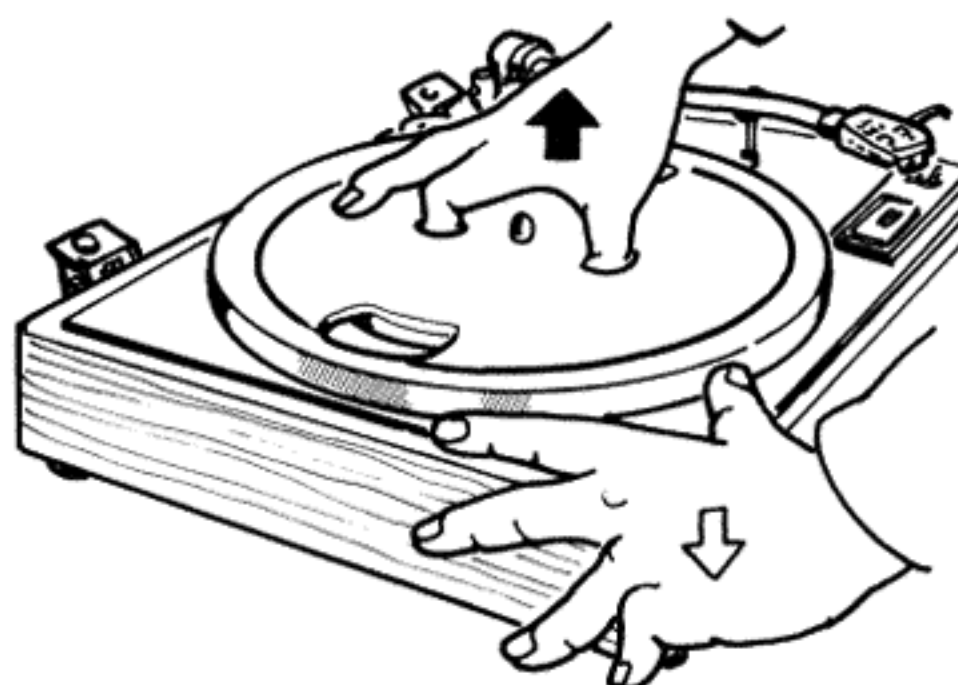

Fig. 17
3. Pull the turntable platter straight up with two fingers inserted into the turntable platter's two openings (Fig. 17).